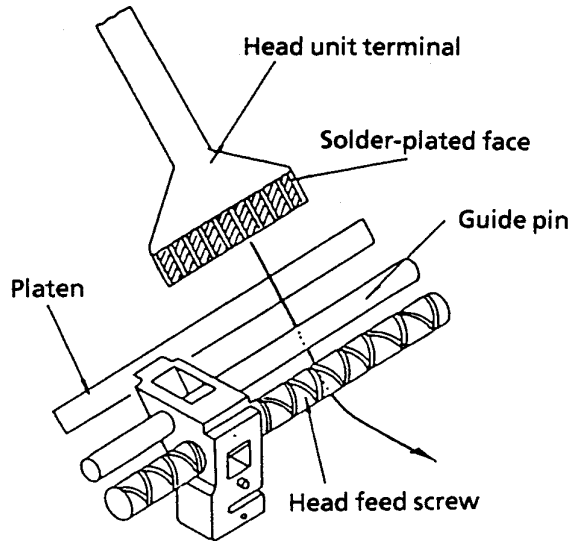

Figure 8-15 Inserting the Head Unit Terminal
- ① Move the head carrier to a position that permits easy replacement (see Figure 8-15).
- ② Insert the head unit terminal between the platen and the guide pin and head feeding screw with the soldered surface of the head unit terminal upwards (see Figure 8-15). Holding the solder-plated face upward, insert the head unit terminal so that it passes in front of the platen and under the guide pin and the head feed screw.